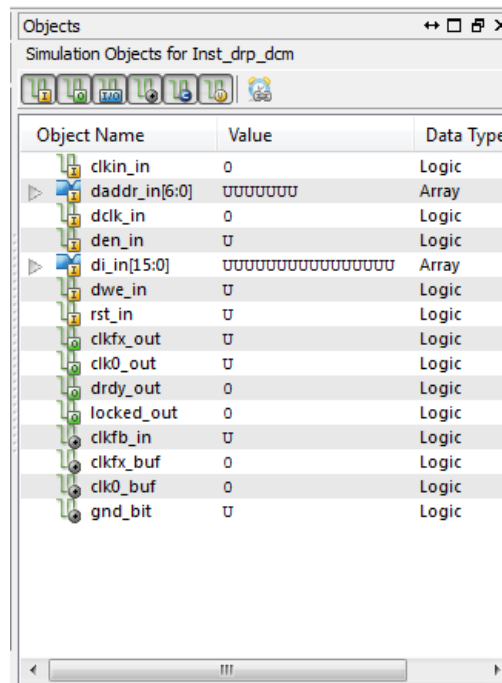

Figure 4-20: Simulation Objects Panel
2. Simulation objects associated with the currently highlighted design unit will appear in the Objects panel (refer to Figure 4-20).